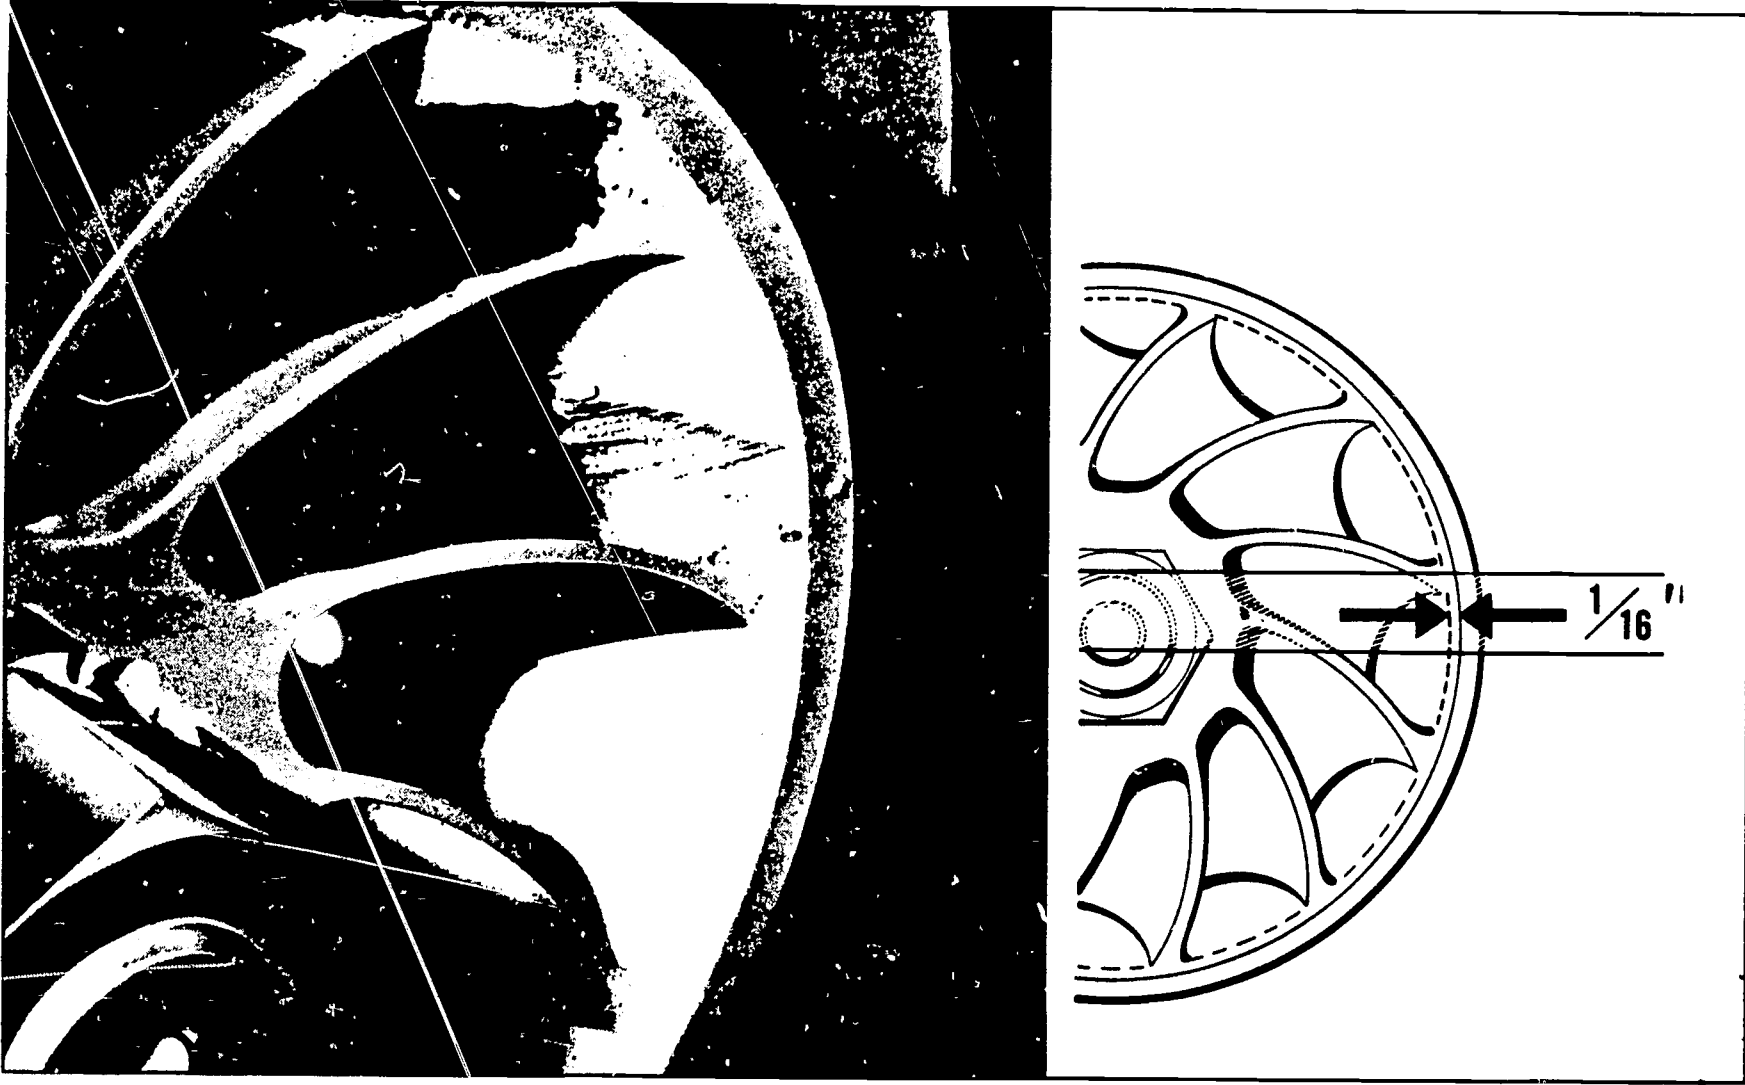

Fig. 16 - Dirt build-up on compressor impeller
2. Remove the air inlet duct and check the compressor impeller for dirt build-up. Dirt build-up must be removed. See Figure 16. Remove the turbocharger from the engine, disassemble, and clean.